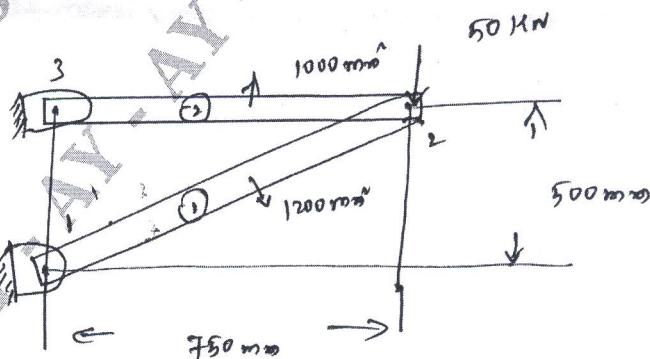

Fig. Q6 (b)
- b. For the two bar truss shown in Fig. Q6 (b). Determine the nodal displacement and the stress in each member. Also find the support reaction. Take  $E = 200 \text{ GPa}$ .